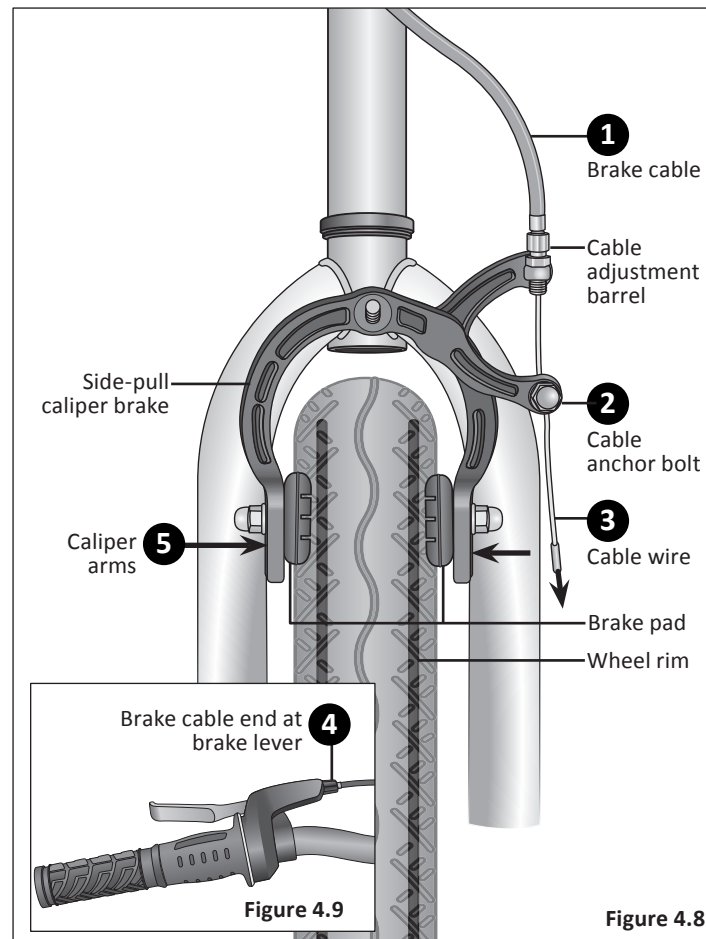

Figure 4.8
- 1** If the brake cable is disconnected at the caliper, thread the brake wire through the adjustment barrel. **Figure 4.8**